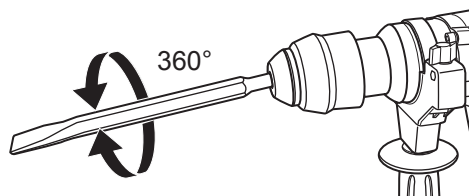

Fig. 10
- > Insert the SDS flat chisel (16).
- > Set the mode selector (7) to the position "chisel rotation". The chisel is now rotatable in the drill chuck (1) (Fig. 10).